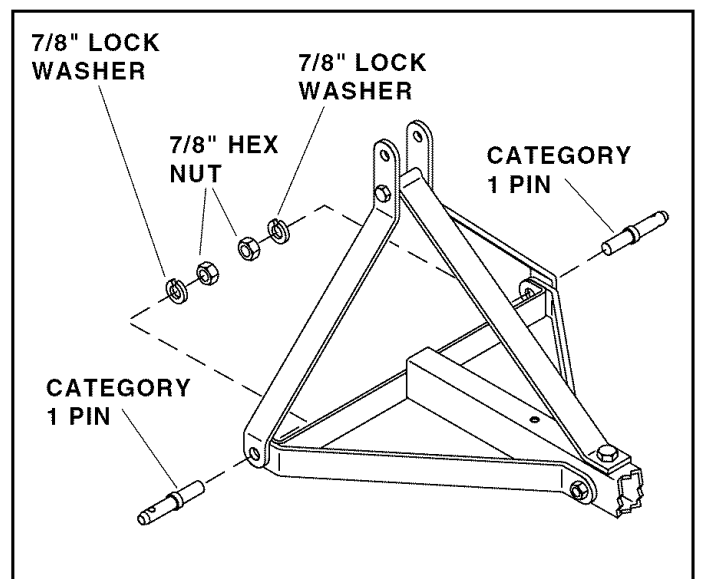

FIGURE 7
- Connect the lower end of each mast side and the front end of the each mast brace to the ends of the mast assembly using two category 1 pins, two 7/8" lock washers, and two 7/8" hex nuts. See figure 7.